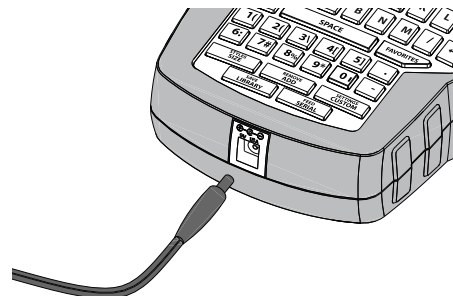

Figure 3
- 1 Plug the power adapter into the power connector on the top of the printer. See Figure 3.